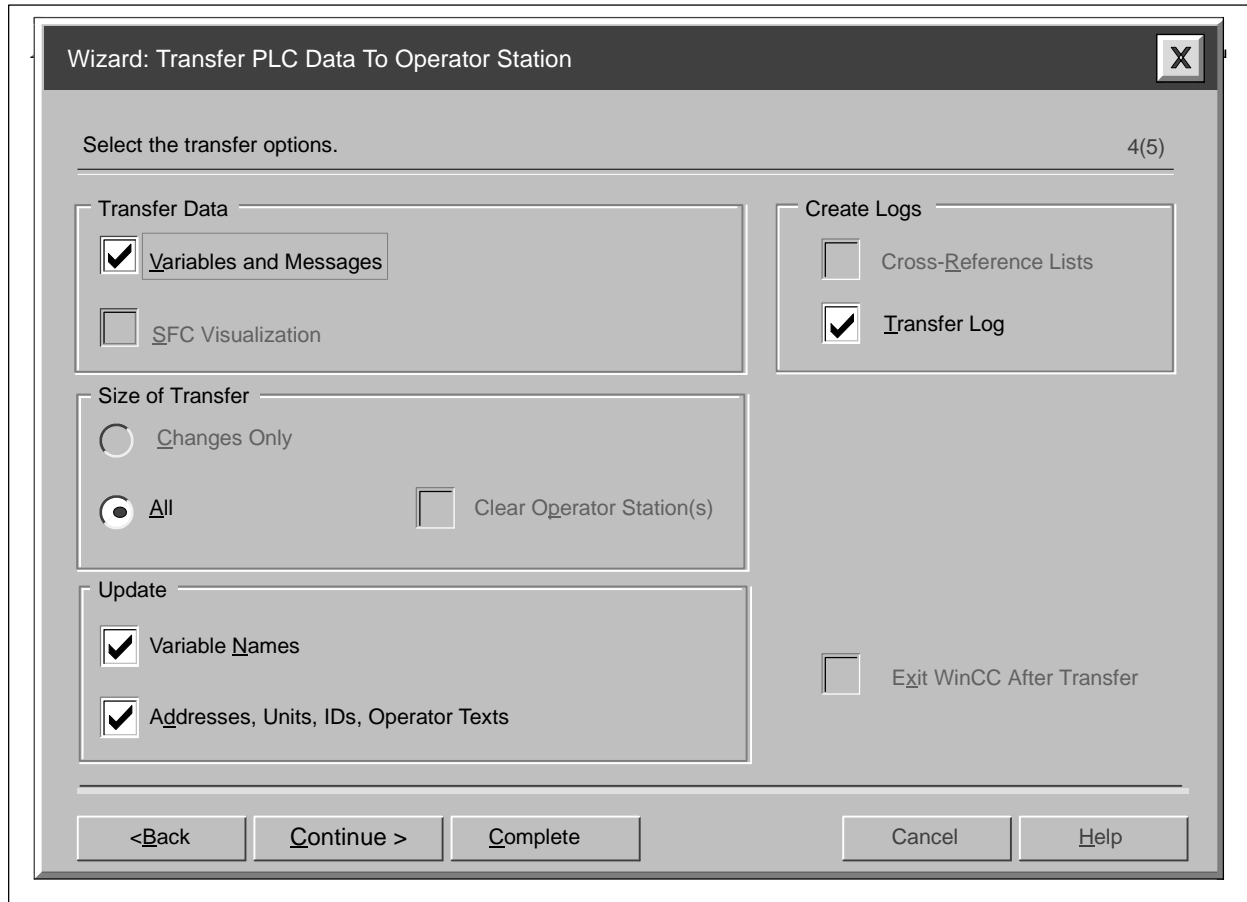

Figure 2-14 Selecting Transfer Options
- Click **Continue**. A transfer options window appears. Make sure the options are checked as shown in Figure 2-14.